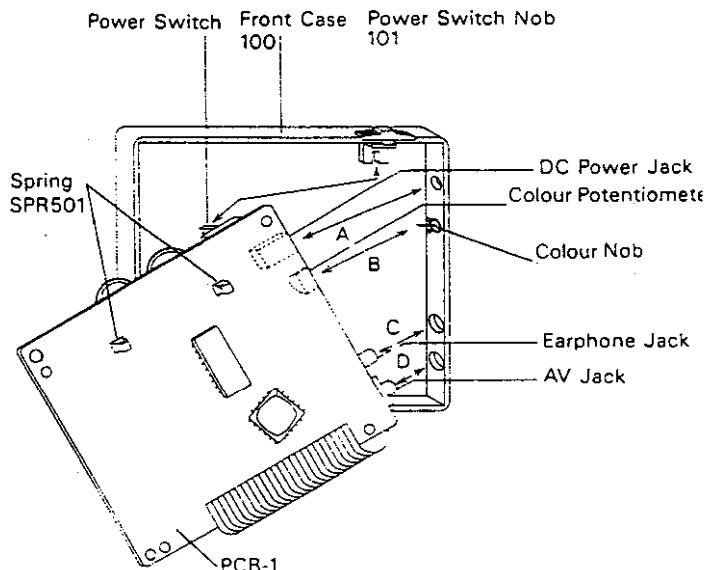

Fig. 3
2. As illustrated in Fig. 3, hold Front case (100) side and pull out PCB-1 in the direction of up slant to remove -(A)DC Power Jack (J451)from Front Case (100),(B)Colour Potentiometer (VR701)from Colour Nob (102), (C)Earphone Jack(J351)from Front Case (100),(D)AV Jack(J251)from Front Case(100),(E)Power Switch(SW451) Power Switch Nob(101).
3. Press the hook of Colour Nob(102), and remove the Colour Nob(102) from Front Case(100).